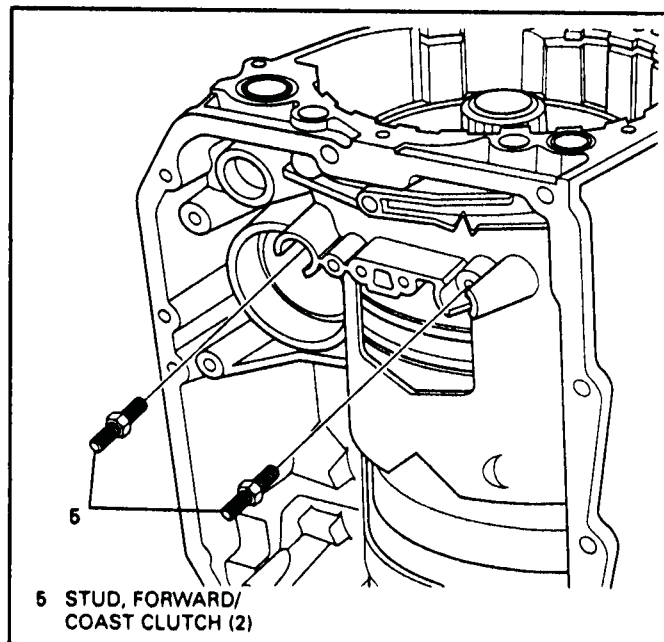

Figure 59
1. Remove the two 13mm forward clutch support bolts from the case as shown in Figure 59.